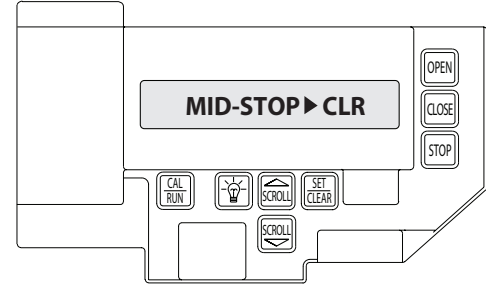

Figure 14
- 3) Press SCROLL  key until display reads "MID-STOP>CLR" **Figure 14.**